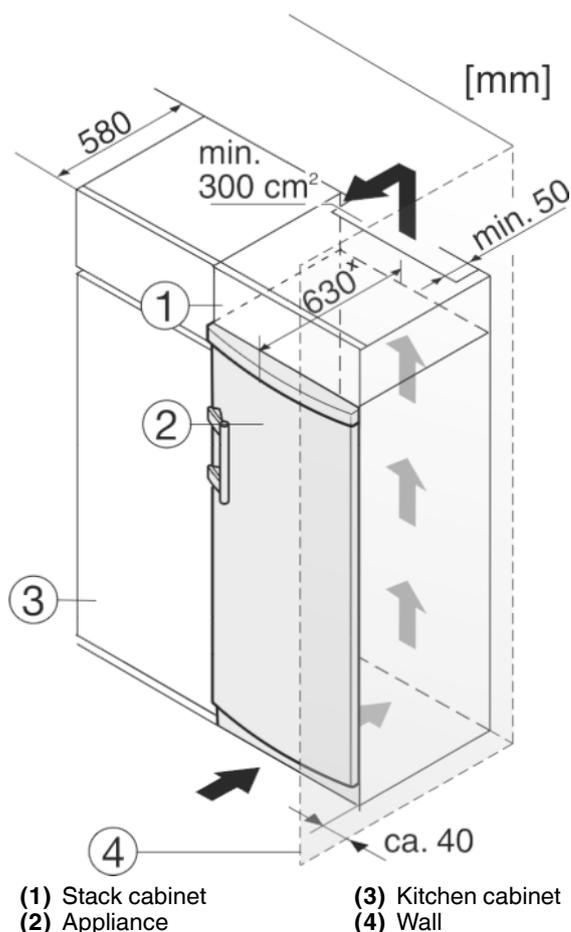

Fig. 9
- (1) Stack cabinet (3) Kitchen cabinet
(2) Appliance (4) Wall
The appliance can be built into kitchen units. A top cupboard Fig. 9 (2) can be added above the appliance in order to bring the appliance Fig. 9 (1) up to the height of the fitted kitchen units.
When installing with kitchen units (max. depth 580 mm), the appliance can be positioned directly next to the kitchen cabinet Fig. 9 (3). The appliance will project by 34 mm* at the sides and 50 mm* in the centre of the appliance in relation to the kitchen cabinet front.
If the appliance is installed with the hinges next to a wall Fig. 9 (4), the distance between appliance and wall has to be at least 40 mm. This corresponds to the projection of the handle when the door is open.